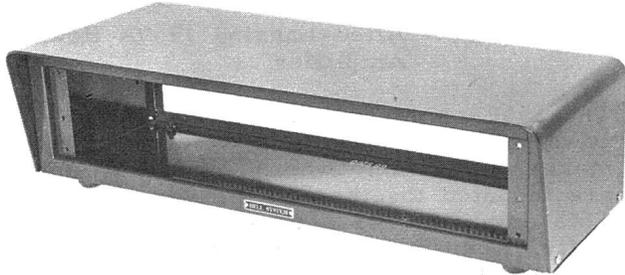

Figure 25 - Graybar GB-9200 amplifier cabinet
3.45 Three models of compressor amplifiers are available for telephone application, coded 436A, 438A, and 439A. (Figures 23A & B and 24). All three hold output level to the same point, are mechanically interchangeable, and differ only in input impedances and gain. The amplifiers measure 19" wide, 3-1/2" high, and 6" deep. They may be either rack mounted or mounted in the Graybar GB-9200 or GB-9201 cabinets. (Figures 25 and 26). They require 20 watts, 117 volts, 60 cycles ac. Output impedances of all three may be connected for 150 or 600 ohms. The power output is plus 19 dbm at 30 db of compression.